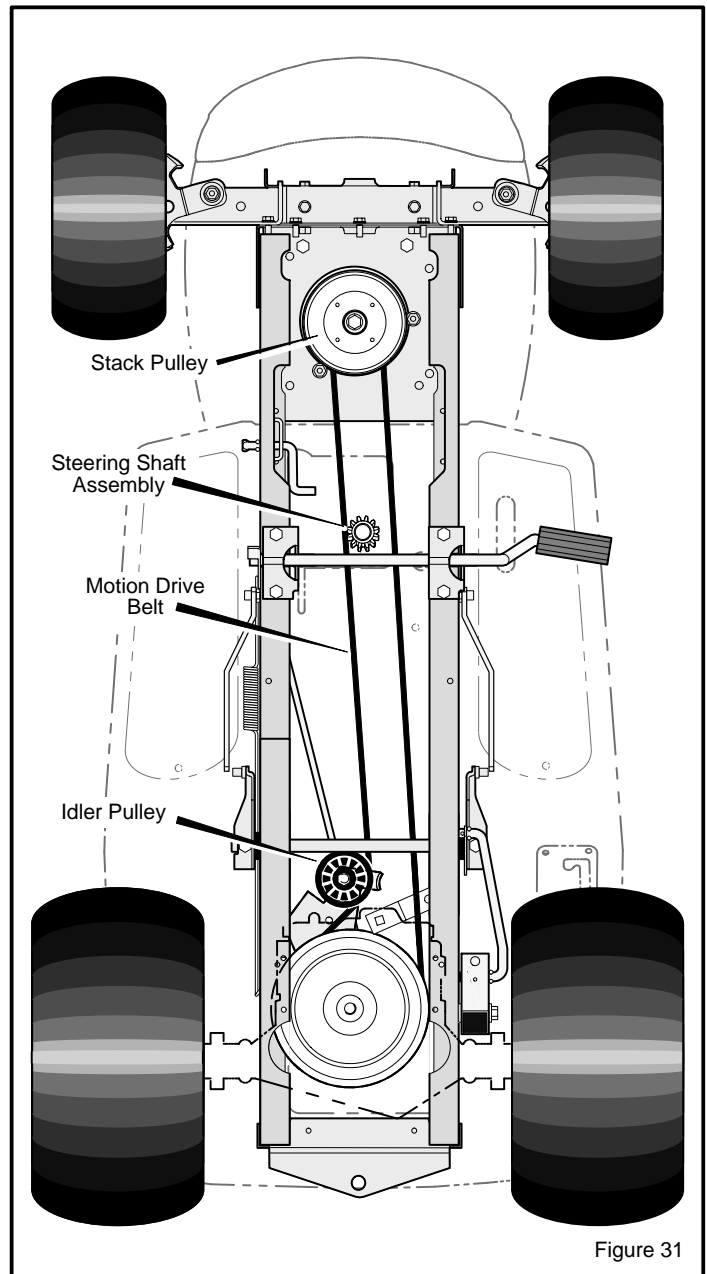

Figure 31
5. Put the belt around the **idler pulley** (Figure 26, Figure 31). Assemble the **idler pulley**. Fasten the **idler pulley** with the hex nut. Make sure the flat side of the belt is against the **idler pulley**. Also, make sure the belt is not twisted.
10. Check the routing of the motion drive belt. Make sure the **motion drive belt** is installed correctly on the **idler pulley**. Make sure the **steering shaft assembly** is inside the **motion drive belt** (Figure 31).